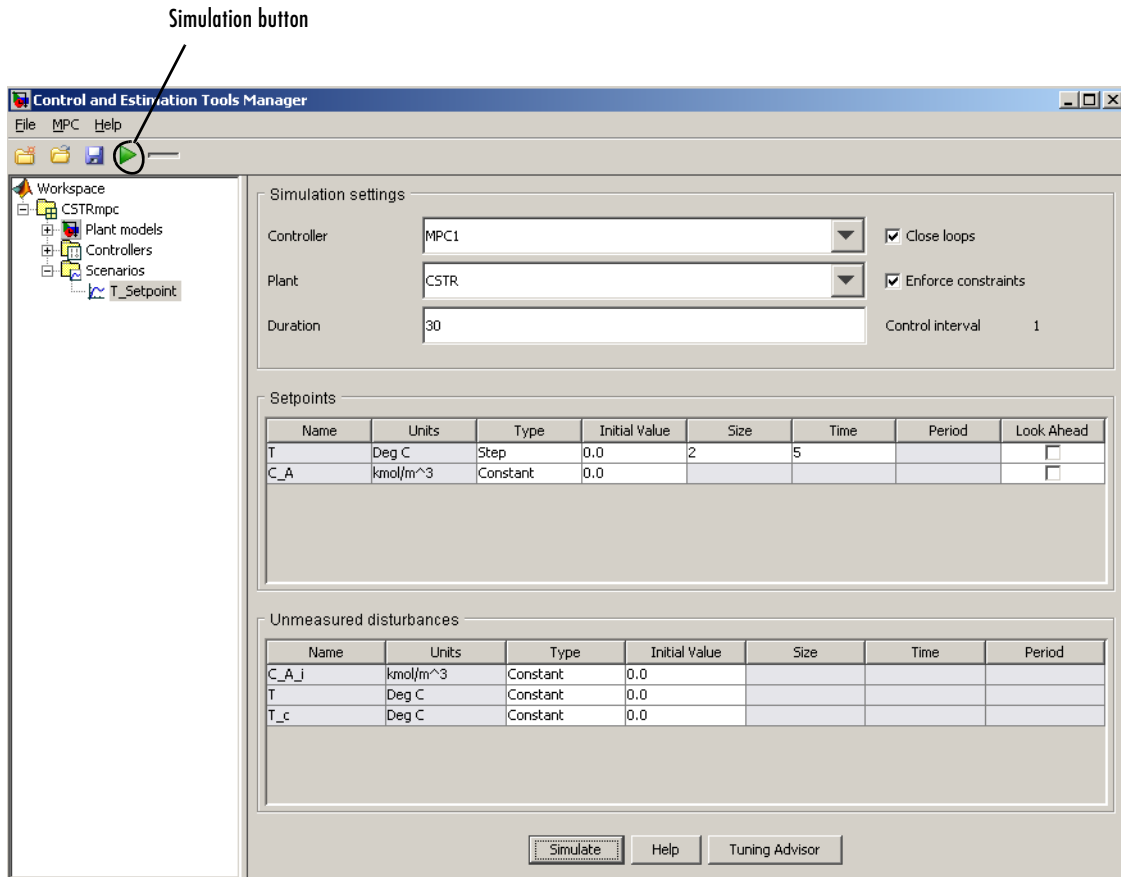

Figure 3-6: CSTR Temperature Setpoint Change Scenario
A *scenario* is a set of conditions defining a simulation. The design tool creates a default scenario and names it **Scenario1**. To view it, click the + symbol next to the **Scenarios** node, and select the **Scenario1** subnode. You should see a view like that shown in Figure 3-6.
Figure 3-6 shows the result of renaming the default **Scenario1** node to **T Setpoint** and editing its default conditions. The required editing steps are as follows:
- Locate the tabular data defining the reactor temperature setpoint (first row of the upper table in Figure 3-6).
- Select the scenario you want to run, and click its **Simulate** button (see the bottom of Figure 3-6).
- Click the toolbar's **Simulation** button, which is the triangular icon shown on the top left of Figure 3-6.